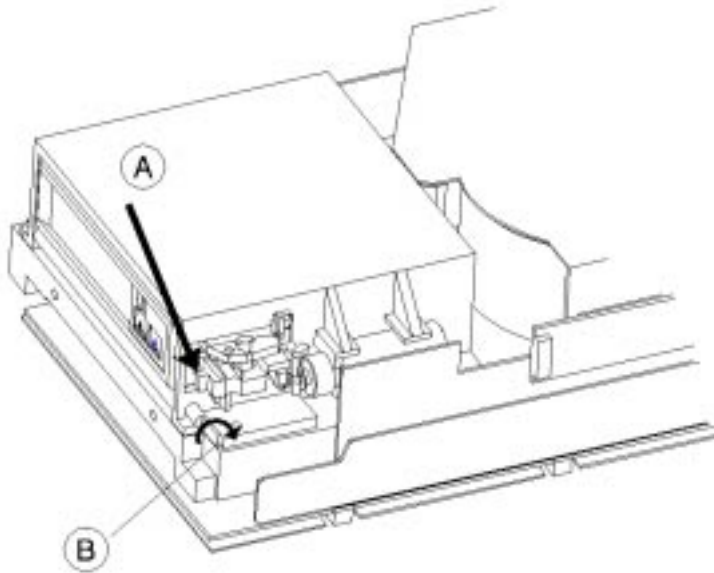

FIGURE 5-6 Ejecting the Tape
9. Pull out the solenoid mechanism while gently turning the D-shaft clockwise with pliers to eject the tape (FIGURE 5-6).